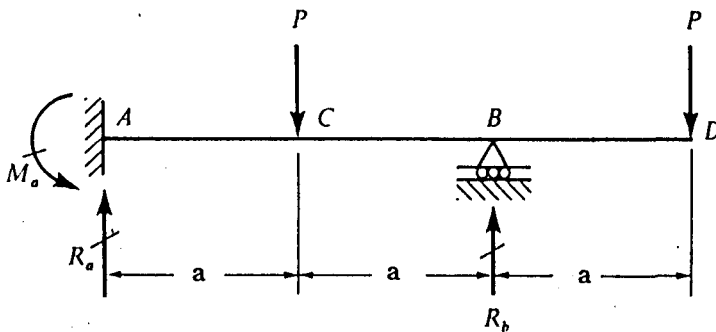

Figure 4
4. Determine the reactions R_a , R_b , and M_a for the propped cantilever beam with an overhang (see figure 4). Also, draw the shear-force and bending-moment diagrams for the beam, labeling all critical ordinates.